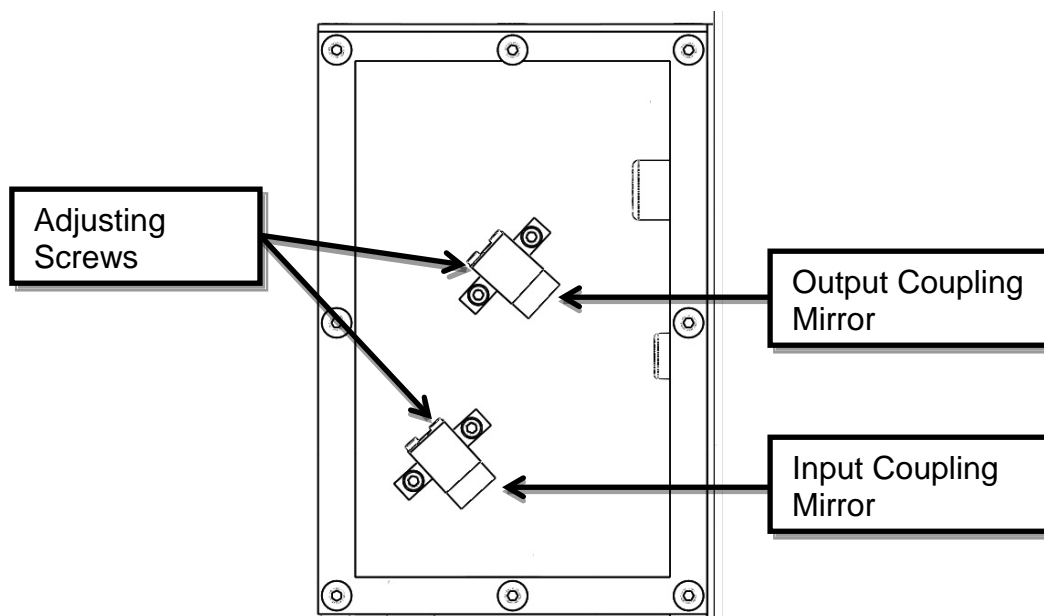

Figure 3-4: Coupling mirrors
5. There are two mirrors inside the laser beam alignment chamber; the input-coupling mirror is the one closer to the cell (see Figure 3-4). Carefully adjust the two screws on the input-coupling mirror to maximise the voltmeter reading. First adjust one screw until maximum voltage, and then adjust the other screw. Repeat until the voltage has reached a maximum.
6. The output-coupling mirror is the mirror further away from the cell (see Figure 3-4). Carefully adjust the two screws on the output-coupling mirror to maximise the voltmeter reading. First adjust one screw until maximum voltage, and then adjust the other screw. Repeat until the voltage has reached a maximum.